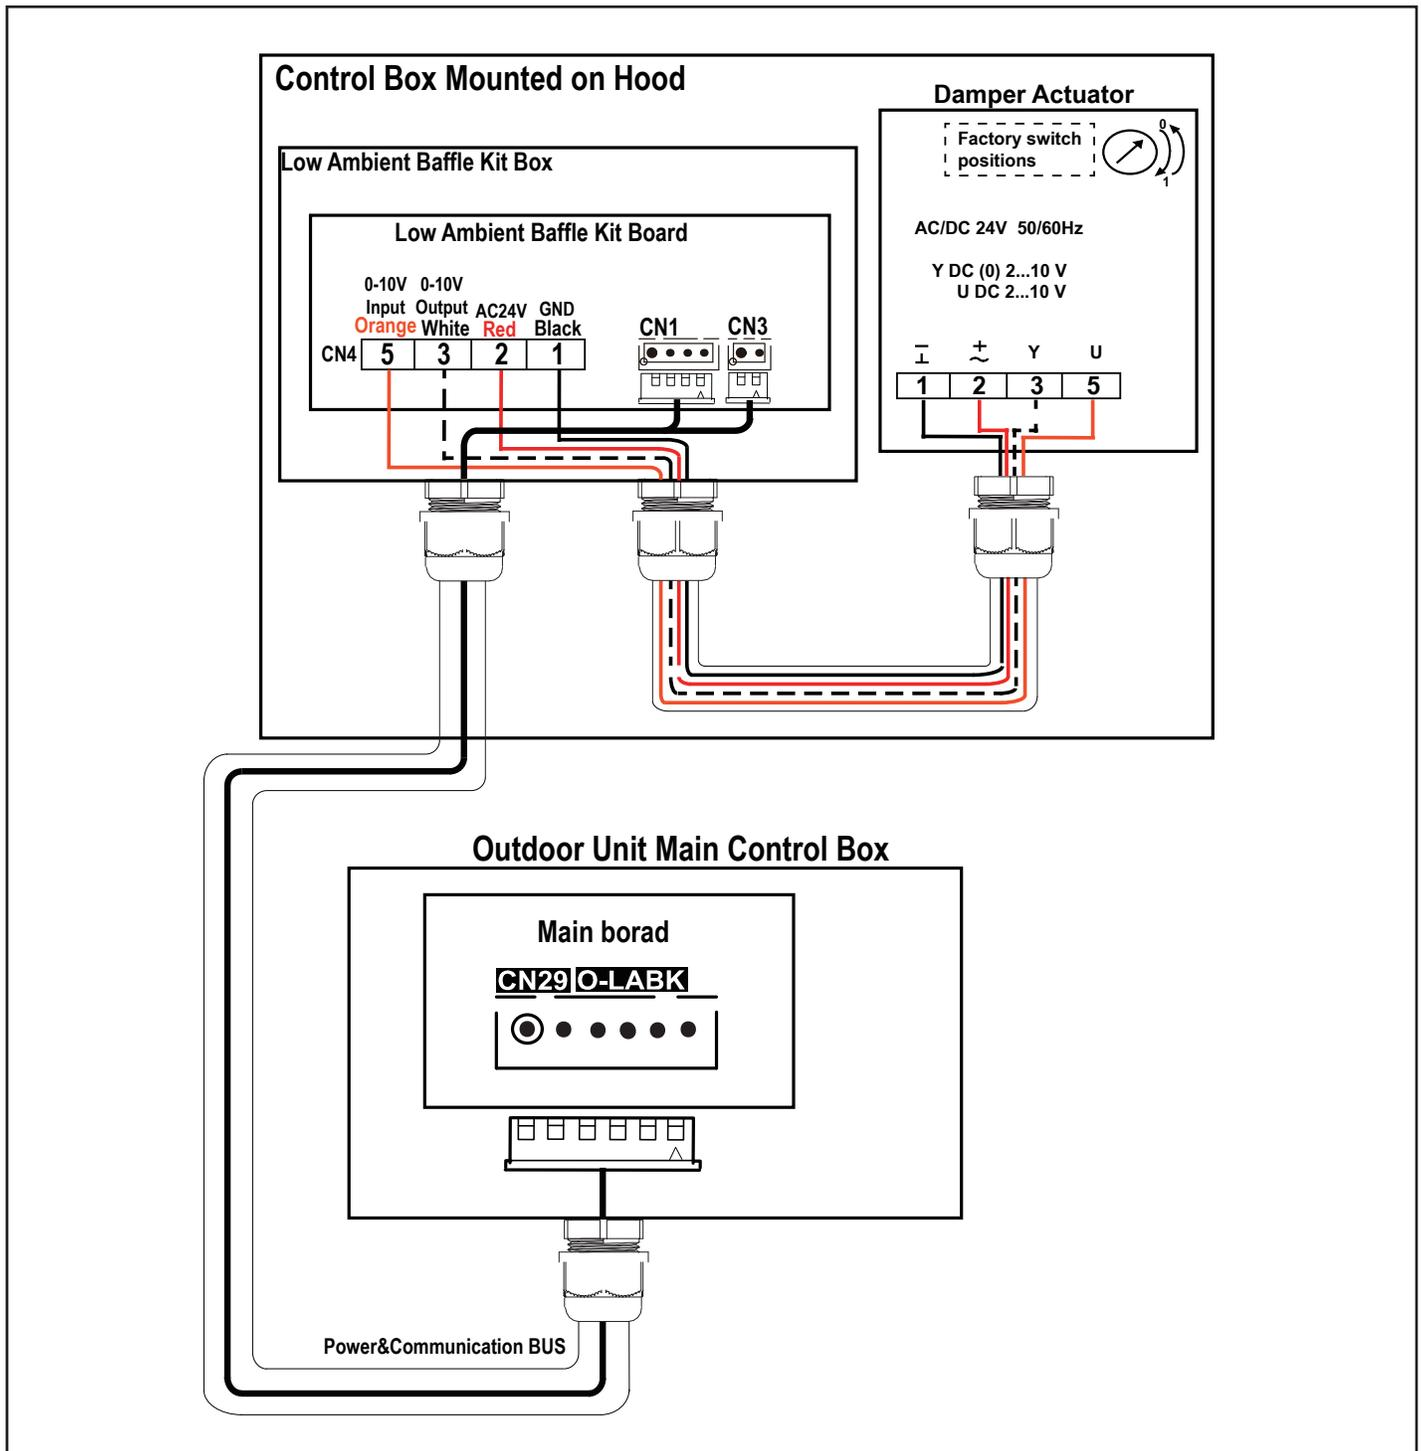

Figure 16. Connection Diagram
- Locate the CN29 connection on the PCB of outdoor unit. Figure 16.
- Follow the connection instructions shown in Figure 16.